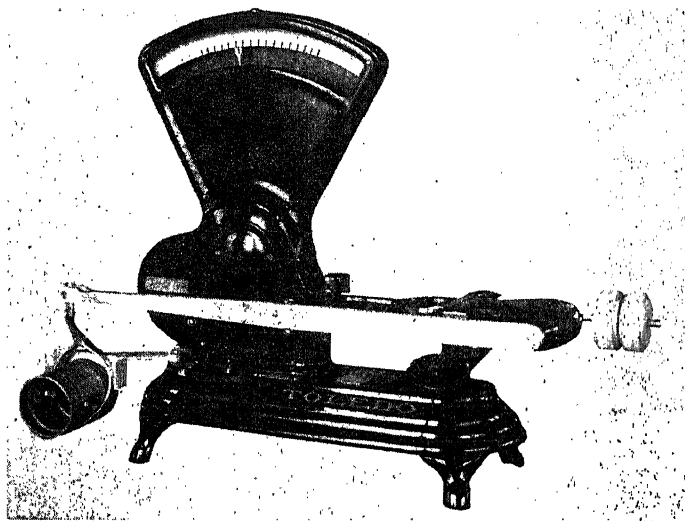

Fig. 45. Pistons Must Be Weighed or Balanced Accurately to Prevent Vibration and Allow Engine to Develop Most Power
**Balancing Pistons.** Motor car manufacturers have long since recognized the need of exact balance of reciprocating parts because it reduces vibration. This means the rod and piston assemblies must have exactly the same weight. It is not only essential that the assemblies have the same weight, it is also essential that the independent parts of the assembly weigh exactly the same. For this reason pistons installed should be carefully checked, Fig. 45, so that there will not be more than the slightest fraction of an ounce variation in the weights. If it is found that a new piston